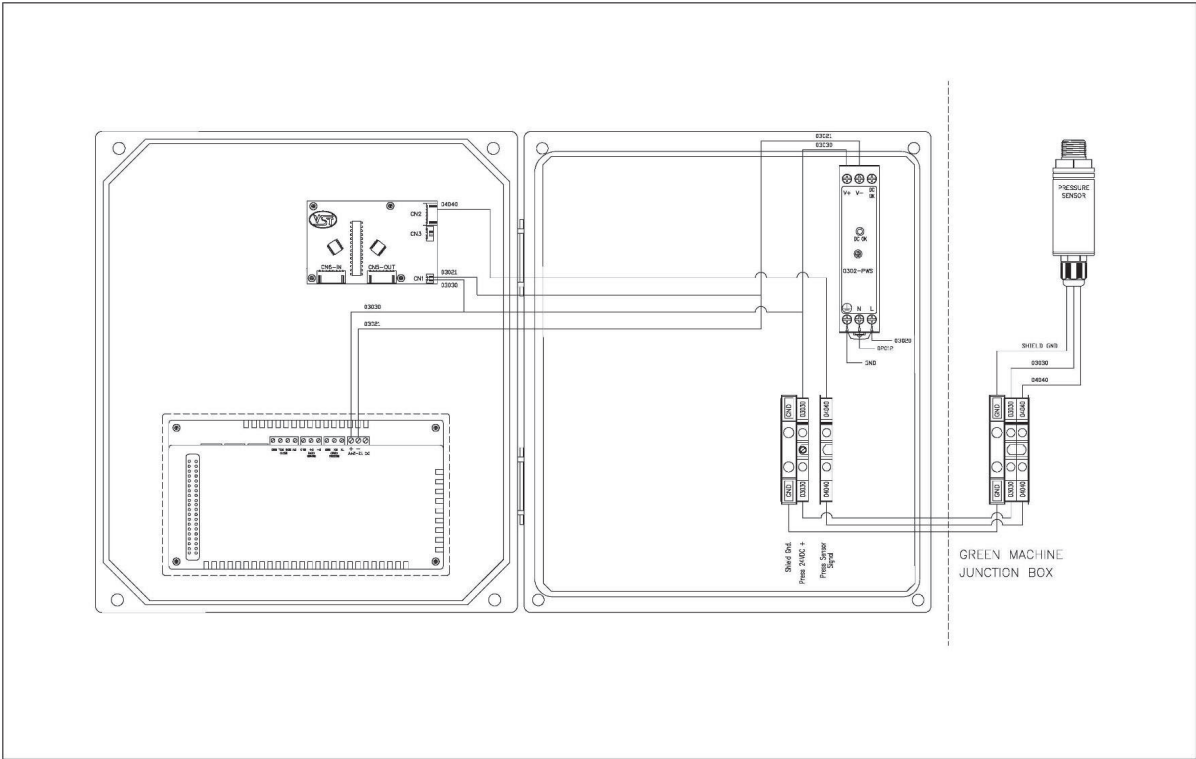

Figure 8-5: Pressure Sensor Wiring Diagram (24VDC Power and 4-20 mA Signal)
See Figure 8-5.
1.	<p>Check that a Pressure Sensor reading is showing on the Main Screen.</p> <ul style="list-style-type: none"> • If a Pressure Sensor reading is not showing: <ol style="list-style-type: none"> a) There is no 24 VDC power to the Pressure Sensor at the PLC. b) There is no signal from the Pressure Sensor to the PLC. c) Check the Pressure Sensor as shown in Figure 8-5. d) Repair the Pressure Sensor power circuit as needed. e) If the power and signal circuits are OK, replace the Pressure Sensor. f) Control Panel Pressure Sensor Input Test Procedure. See Section 8.5.2 g) Pressure Sensor Test Procedure See Section 8.5.3